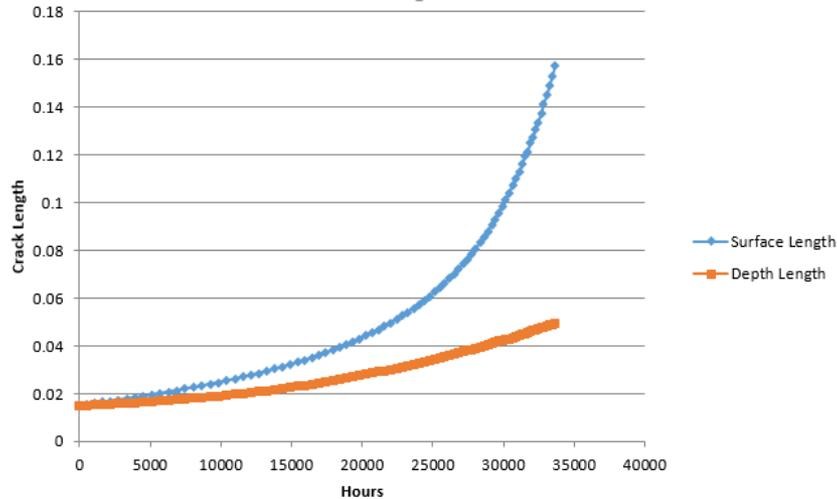

Figure 6: Crack Length vs. Flight Hours
- The crack propagates through the thickness as displayed with Figure 6 and 7